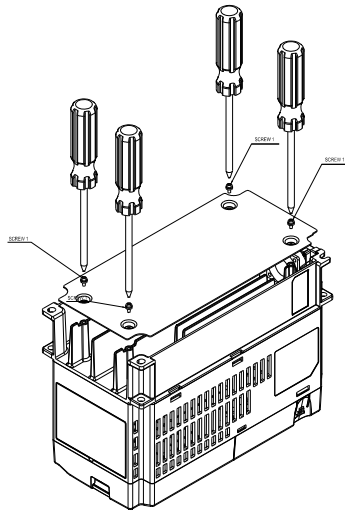

Figure 1
1. Install accessory 1 by fastening 4 of the screw 1(M3) (figure 1). Screw torque: 6~8 kg-cm / [5.21~6.94 lb-in.] / [0.6~0.8 Nm]